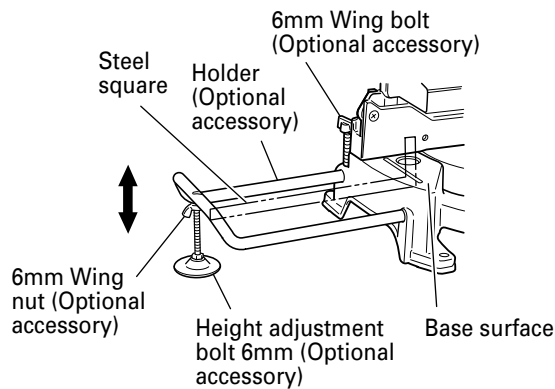

Fig. 9
- (1) As indicated in Fig. 9, use a steel square for aligning the upper edge of the holders with the base surface.